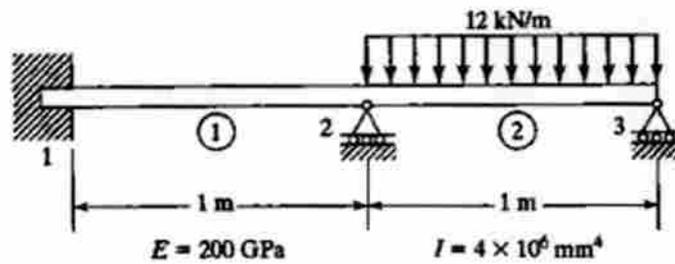

Figure 3
12. B). For the beam and loading shown in figure 3. Determine the slopes at 2 and 3. And also the vertical deflection at the midpoint of the distributed load. 10M